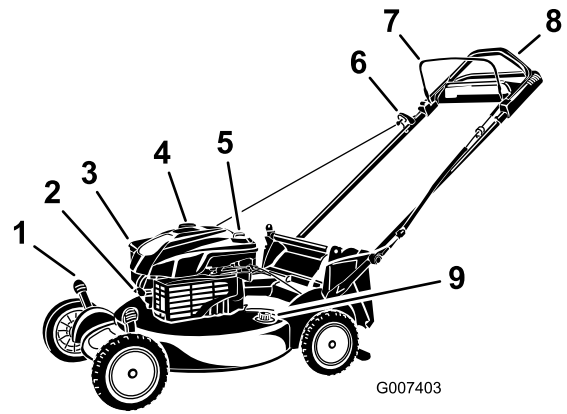

**Figure 6**
1. Remove the dipstick (Figure 6).
2. **Slowly** pour oil into the oil fill tube until the oil level reaches the Full line on the dipstick (Figure 6). **Do not overfill.** (Max. fill: 20 oz. (0.59 l), type: SAE 30W detergent oil with an API service classification of SF, SG, SH, SJ, SL, or higher.)